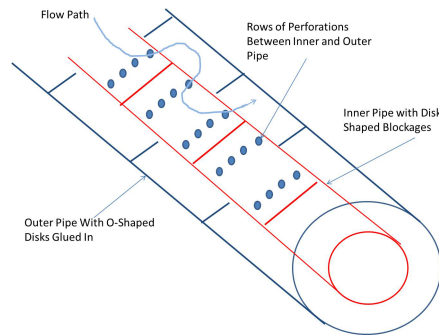

Figure 4: Option 3
- Option 3: We can also construct a pipe within a pipe in which water enters the flocculator through the inner pipe. Horizontal baffles would then route flow from the inner pipe to the outer pipe through small drilled holes and then back again. This process would repeat through the length of the pipes. The small holes would cause a contraction and expansion in the flow to increase collisions (see Figure 4).